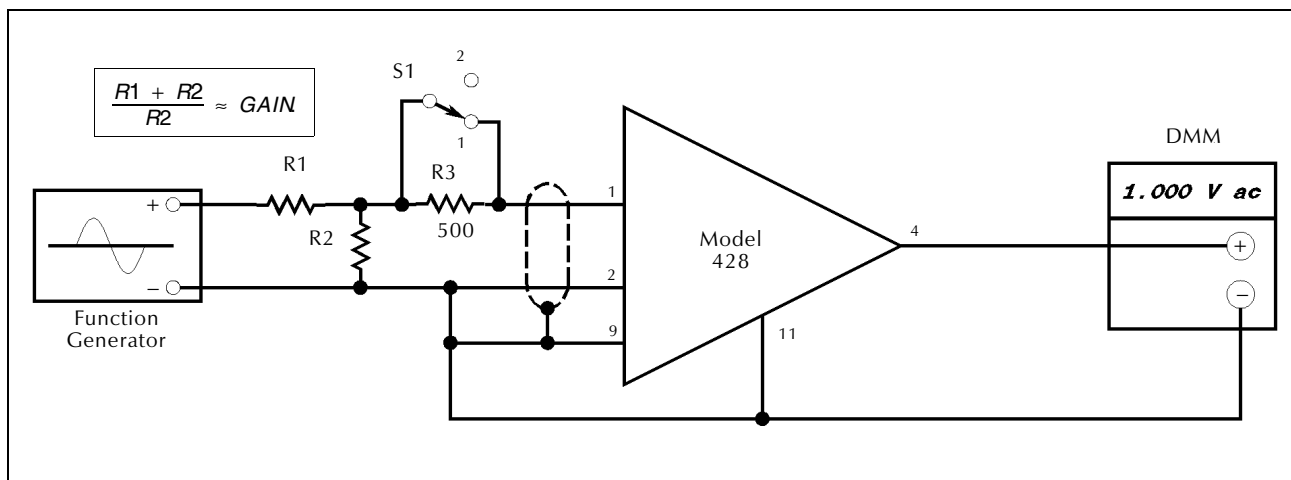

Figure 5-5
1. Connect the Model 428 as is shown in Figure 5-5. For R1, R2, and R3 use either metal-film or carbon-film or carbon-composition resistors. R2 should not be less than 100 Ω.